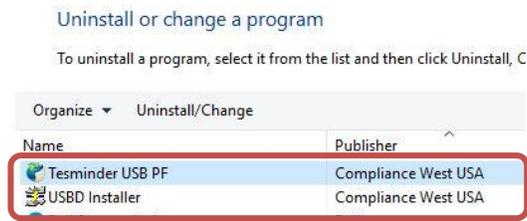

Figure 39 Programs and features
4. To remove the TestMinder software, open your “Control Panel” and look for “Programs and features” and click on it. On the next screen arrange the items by “Publisher” and look for the items with “Compliance West USA” as its publisher (Figure 39).